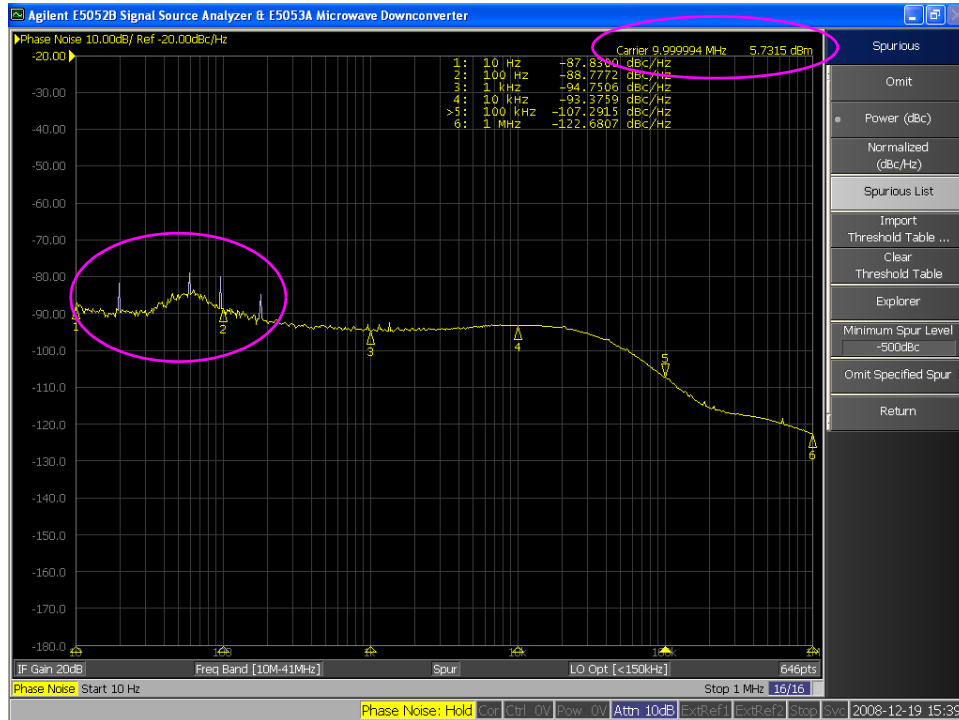

Figure 3-4. E5052B Display
- b. Touch Single. At the upper right of the screen the E5052B should have the approximate test frequency displayed, see Figure 3-4.
- b. Touch **Power (dBc)**. Now white spikes may appear on the screen indicating the spurs, see Figure 3-4.